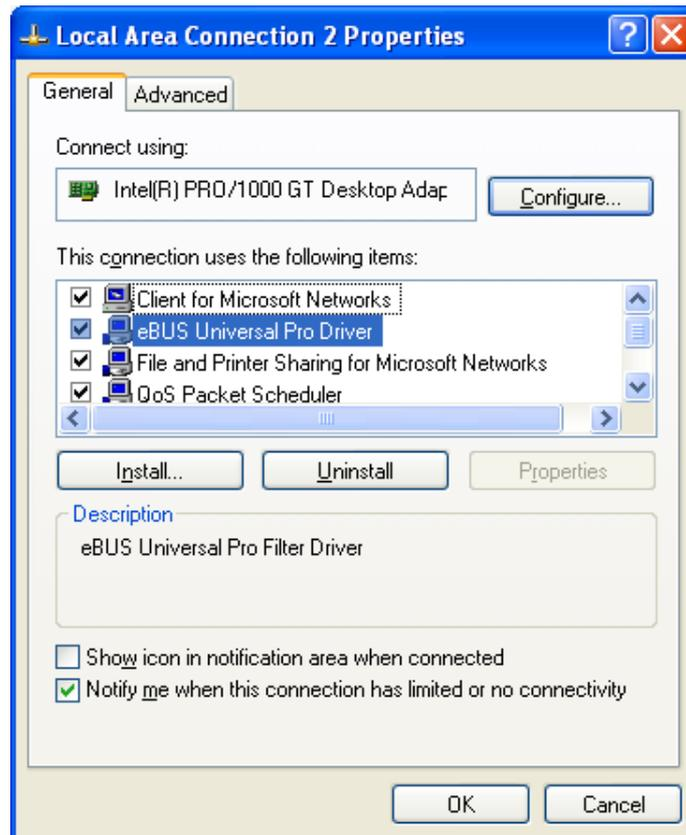
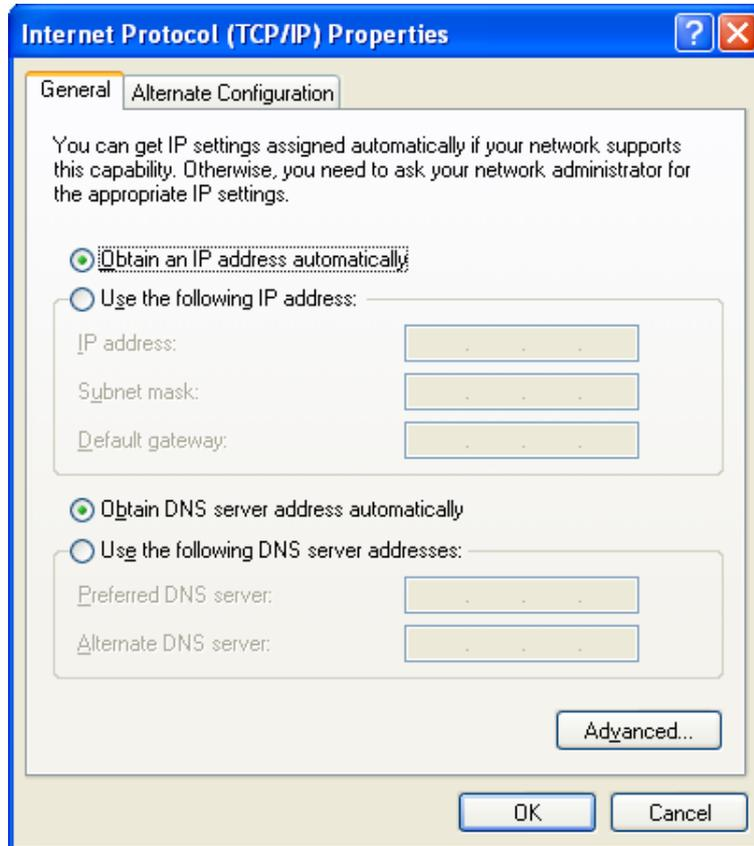
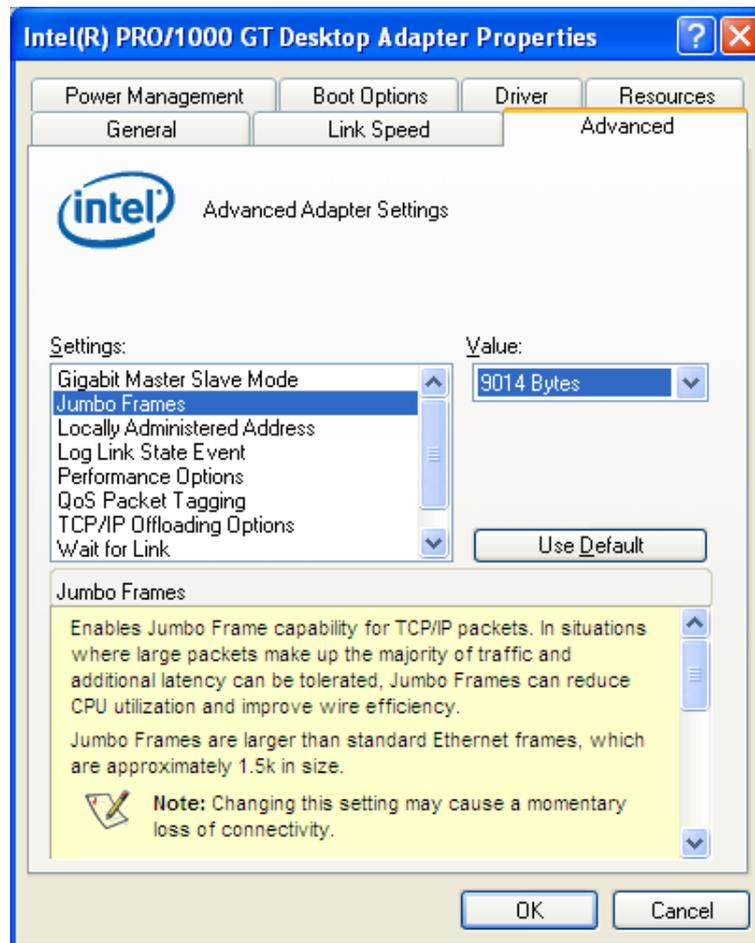

Figure 3.4: Local Area Connection Properties
Figure 3.5: TCP/IP Properties
Figure 3.6: Advanced Network Adapter Properties
- By default, Photonfocus GigE Vision cameras are configured to obtain an IP address automatically. For this quick start guide it is recommended to configure the network adapter to obtain an IP address automatically. To do this, select Internet Protocol (TCP/IP) (see Fig. 3.4), click the Properties button and select Obtain an IP address automatically (see Fig. 3.5).
3. Open again the Local Area Connection Properties window (see Fig. 3.4) and click on the Configure button. In the window that appears click on the Advanced tab and click on Jumbo Frames in the Settings list (see Fig. 3.6). The highest number gives the best performance. Some tools however don't support the value 16128. For this guide it is recommended to select 9014 Bytes in the Value list.